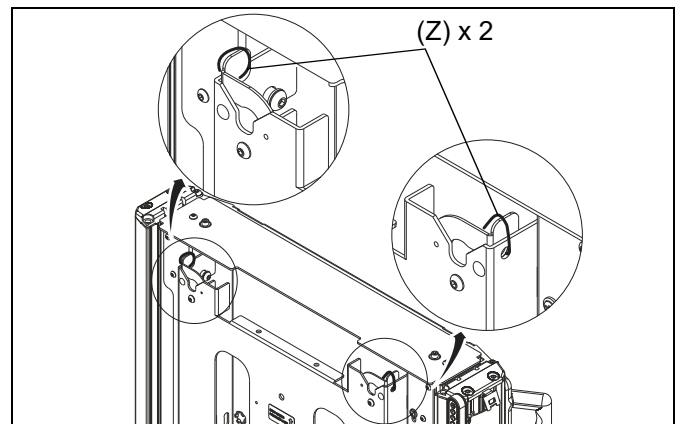

Figure 18
IMPORTANT ! : Manufacturer recommends using cable ties (Z) to secure the latching flags in closed position on both sides if padlock is not being used. (See Figure 18)